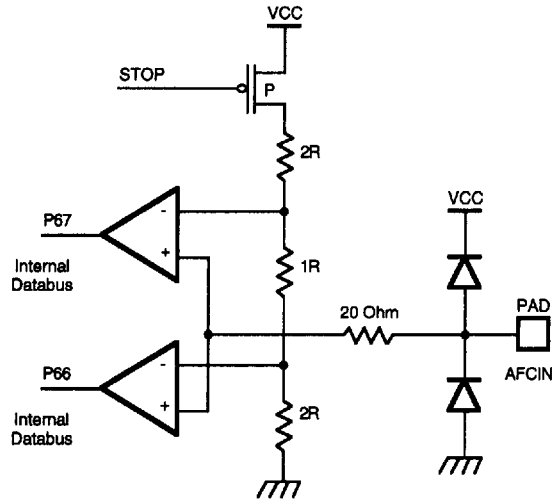

Figure 6. AFCIN Comparator Circuits
**AFCIN** (Comparator input port, memory mapped). The input signal is supplied to two comparators with VTH1=2/5 VCC and VTH2=3/5 VCC typical threshold voltage. The comparator outputs are internally connected to Port 6, bit 6 and bit 7. AFCIN is typically used to detect AFC voltage level to accommodate digital automatic fine tuning functions (Figure 6).